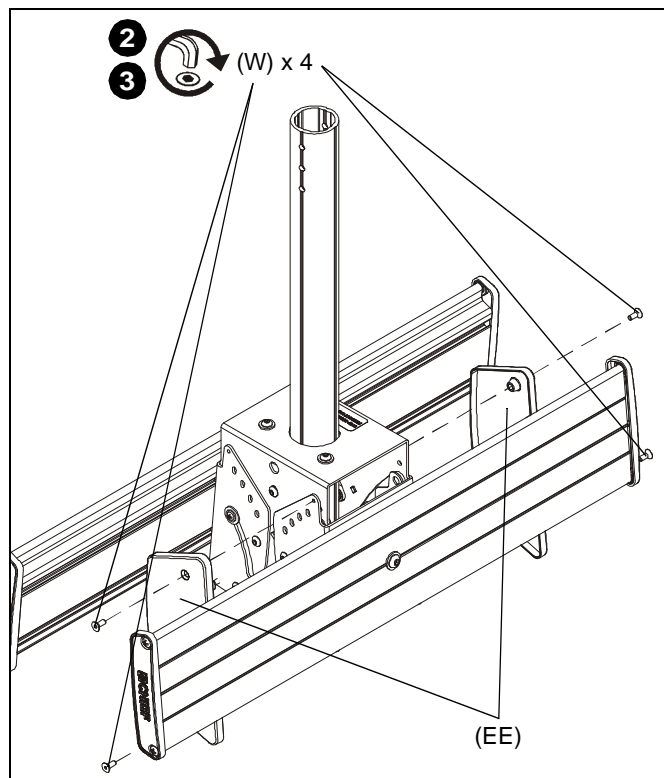

Figure 14
2. Install one side cover (EE) onto side of ceiling mount using two 10-24 x 1/2" flat head screws (W). (See Figure 14)